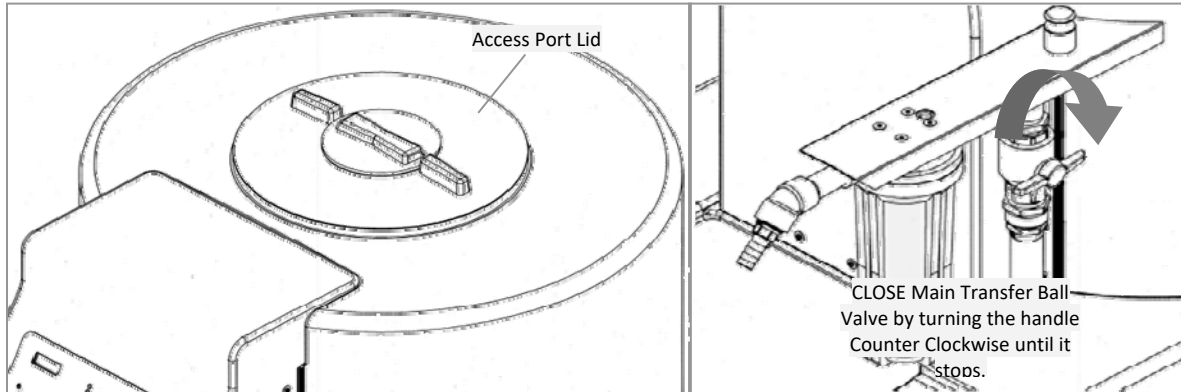

Figure 1
1. Before initiating the RINSE CYCLE, the operator must ensure that the Dry Acid Dissolution Unit Access Port Lid in place (do not fully secure) and the Main Transfer Ball Valve is in the CLOSED position. Make sure input water supply valve is OPEN (Figure 1).